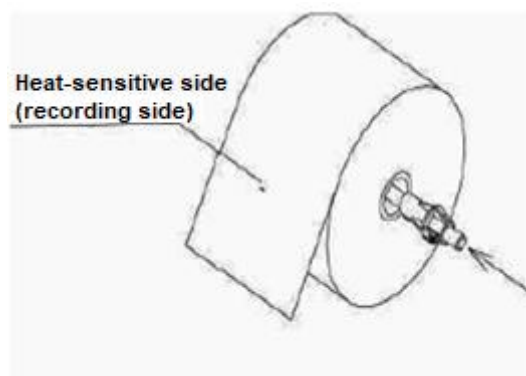

Figure 80. Printer paper
- Assembly the new paper roll onto the spool ensuring it is the right way around as shown in Figure 80